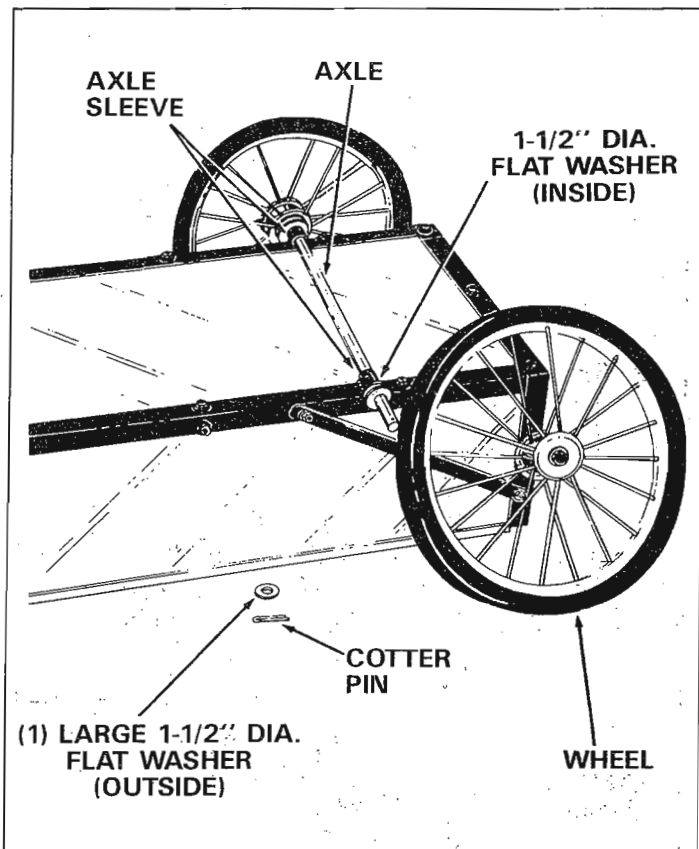

FIGURE 11.
6. Insert axle through axle sleeves as shown in figure 11 on page 6. Tighten all nuts securely.
21. Place one 1-1/2" dia. flat washer on axle, then wheel, one more large flat washer and secure with cotter pin. See figure 11 and note below. Repeat step for other wheel.